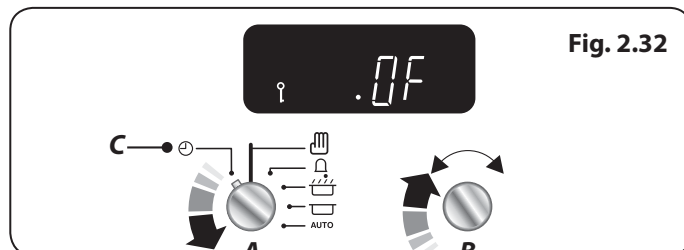

Fig. 2.32
3. Continue to hold the **Timer (A)** knob onto the **Clock (C)** setting, turn the **Adjusting (B)** knob clockwise, the 'OF' and the 'Key' symbol will display (Fig. 2.32).
4. To activate repeat steps 1 to 2 and continue to hold the **Timer (A)** knob onto the **Clock (C)** setting, turn the **Adjusting (B)** knob clockwise to 'ON', the 'Key' symbol will disappear and the Multifunction Oven will be enabled.